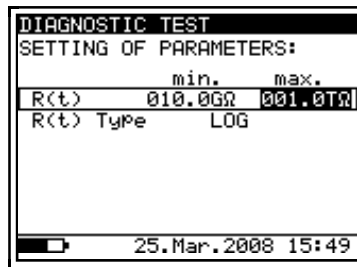

Fig. 21. Set-up menu of the Graph $R(t)$
- Press the SELECT key to Set-up the parameters of the graph $R(t)$, see the Fig. 21. Press the ESC key to return to basic Set-up menu in the Diagnostic Test function.